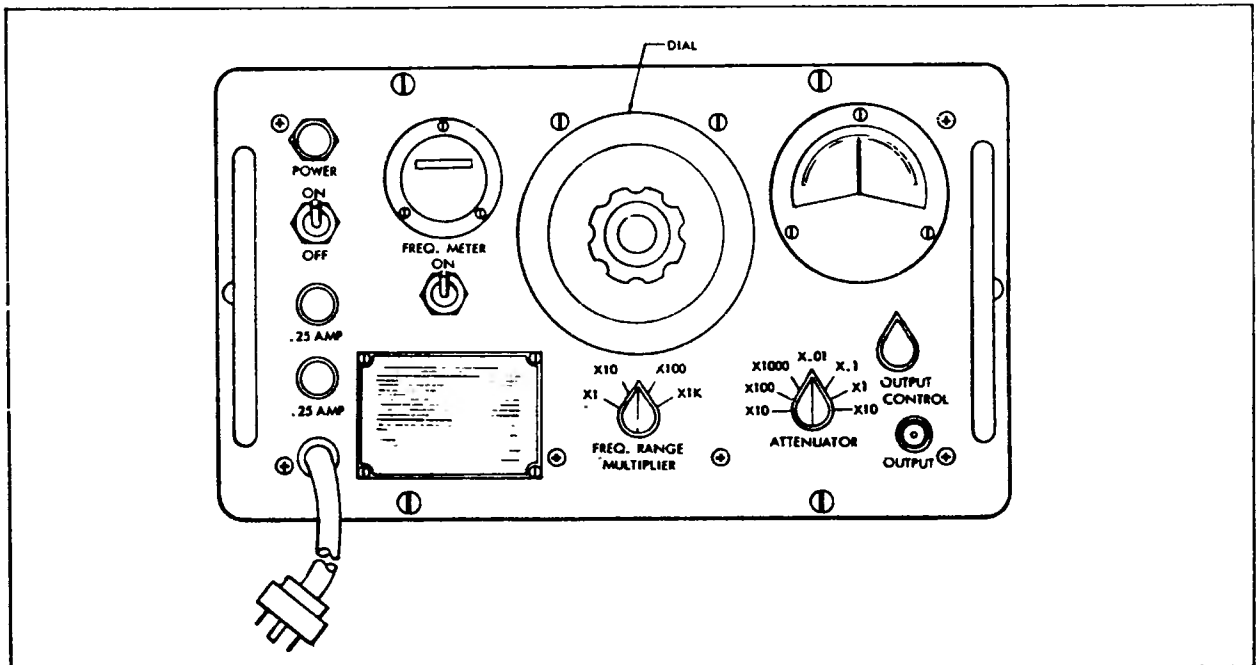

Figure 2-1. Panel Identification
b. Connection to Power Supply. Check that power source is as described in paragraph 2-1b and observe whether power source outlet is three-prong or two-prong type. If power outlet is two-prong type, insert generator power plug in outlet receptacle while holding grounding pin aside. See figure 2-1 for panel markings and locations.
(1) Turn generator POWER switch to OFF, and turn FREQ METER switch to OFF.
(2) Connect Power Cable to power source receptacle.
(3) Turn POWER switch ON and observe that POWER lamp illuminates.
b. References to controls or monitors which are capitalized will be identical to panel markings as shown in figure 2-1.
3-4. PRELIMINARY ADJUSTMENTS. (See figure 2-1.)
3-6. OPERATION. (See figure 2-1.)
b. Refer to figure 1-2 for equipment capability and to figure 2-1 for panel markings.